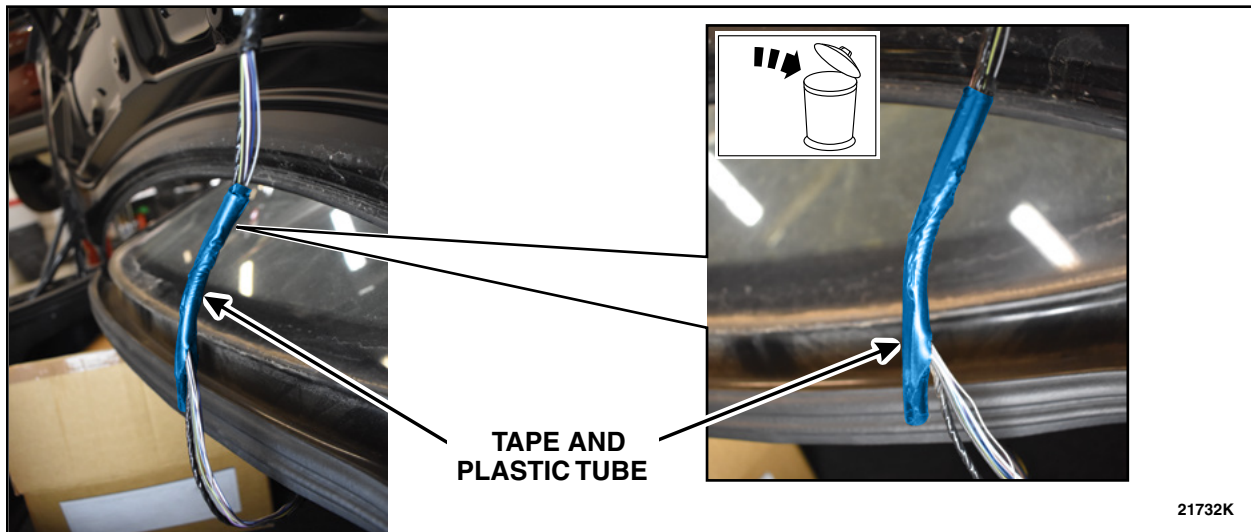

FIGURE 12
16. Remove and discard the tape and the plastic tube. See Figure 12.